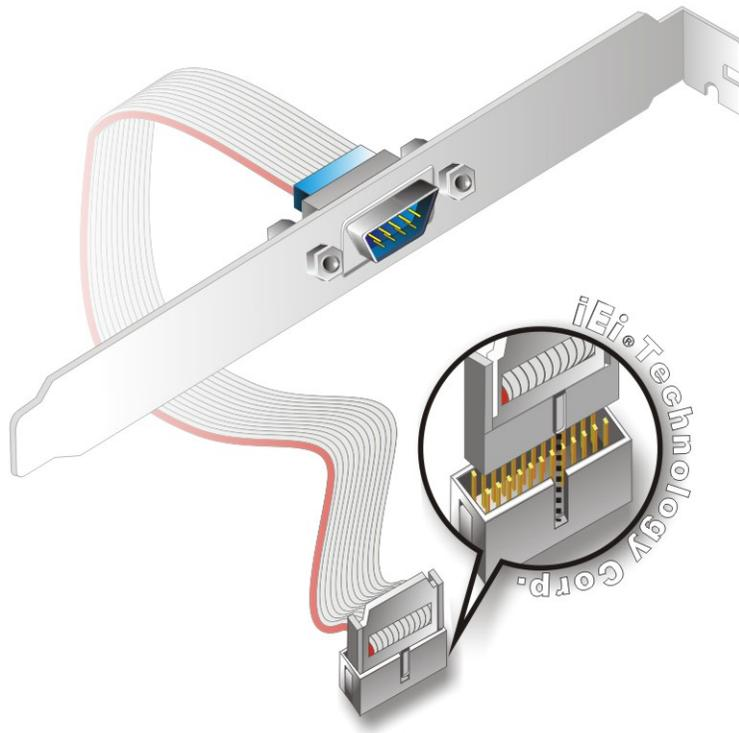

Figure 4-10: Single RS-232 Cable Installation
Step 2: Insert the cable connector. Insert the connector into the serial port box header. See Figure 4-10. A key on the front of the cable connectors ensures the connector can only be installed in one direction.